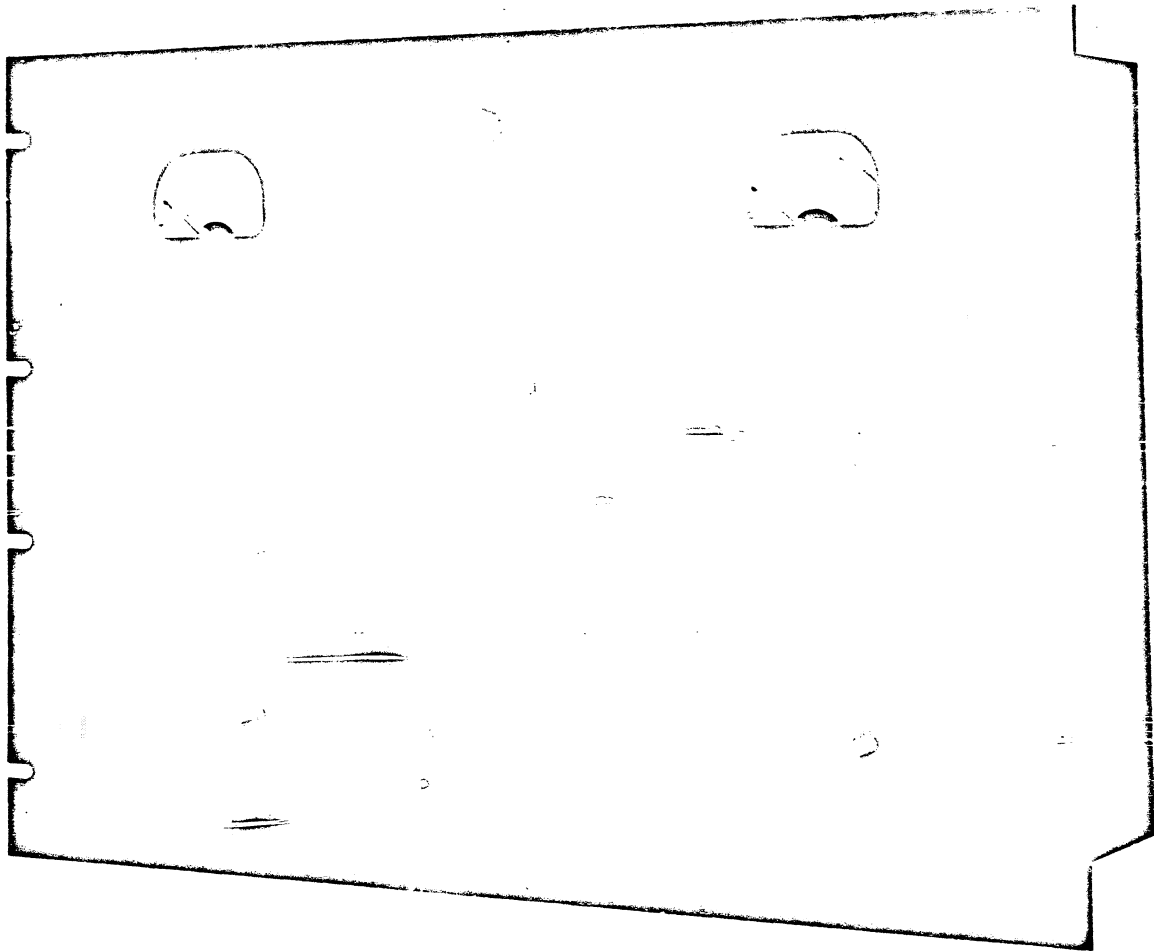

Figure 1-1. Type 26 W Limiting Amplifier
a. This instruction book is to be used as a guide to the installation, adjustment, operation and maintenance of the Collins Type 26W Peak Limiting Amplifier. Refer to Figure 1-1.
(1) The Type 26 W is constructed to mount in any standard 19" relay rack or cabinet such as the Collins Type 19G-2 or 19G-3. A vertical mounting space of 14" is required. The equipment is assembled on a vertical chassis in such a manner that all wiring and circuit components are accessible by removing a dust cover at the rear of the chassis. A hinged door in the front panel provides access to the tubes. A chassis is open at top and bottom assuring ventilation of tubes and transformers.
(2) The Collins 26W is a general purpose program amplifier including means for preventing the peak output signal from exceeding a certain predetermined level. Metering facilities provide a continuous visual indication of operating conditions. A self contained power supply is included in the equipment.